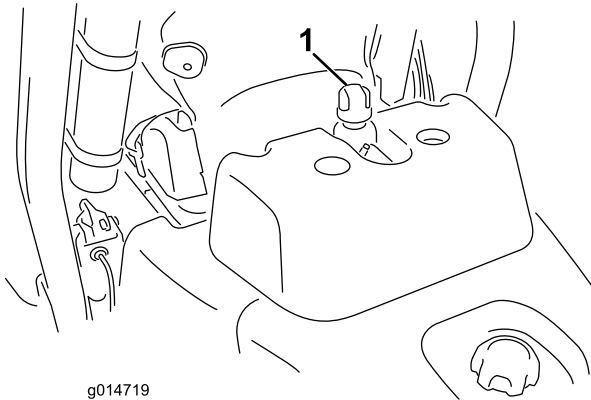

Figure 27
2. Remove the cap from the reservoir (Figure 27).